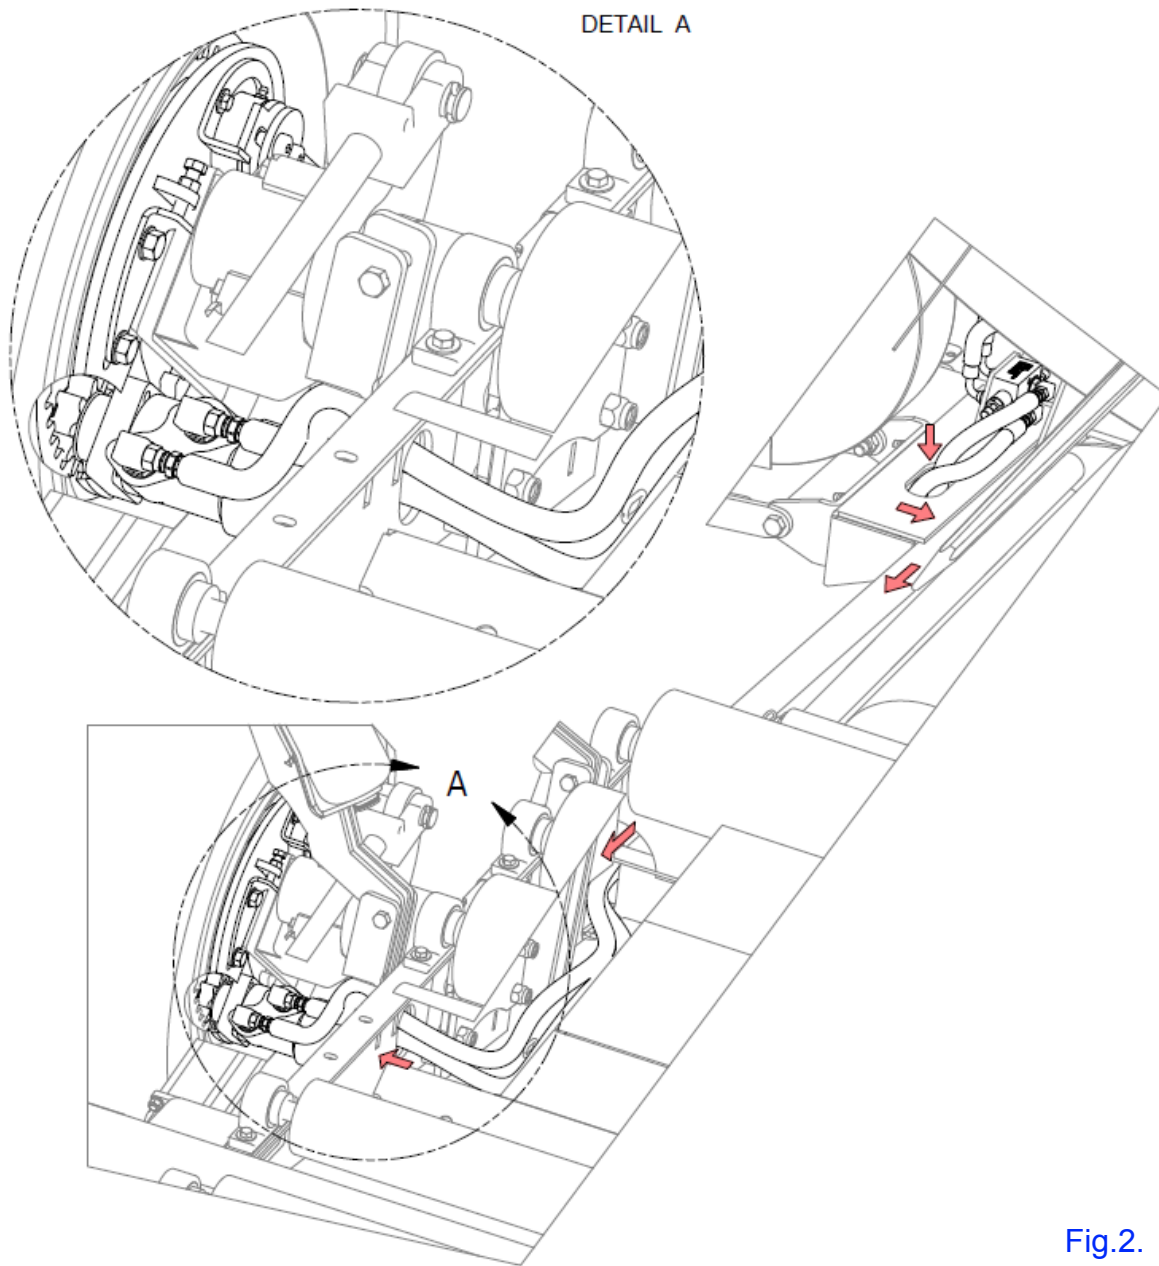

Fig.2.
2. Remove existing brake pad from parking brake bracket. Reuse bolts to fasten supplied hydraulic motor as shown in Fig.2.
4. Route two hoses marked "26919" from crossover relief valve through hoop wheel mount and side frame tube to middle of roller bed, then through the left roller bed mount plate to the hydraulic motor. Make sure 90° hose ends are towards crossover relief valve. See arrows in Fig.2.